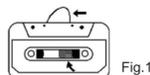

Fig.1
- Check that there are no loose layers of tape visible through the cassette center window (see Fig.1). Take up any loose layers, using a pencil or hexagonal barreled ballpoint pen, before inserting the cassette into the machine (see Fig.2)